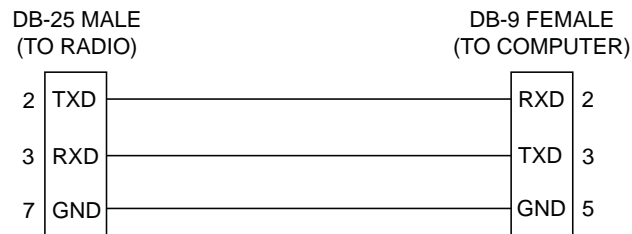

Figure 15. DB-25 to DB-9 Adapter Cable
1. Connect a PC to the radio’s DATA INTERFACE port via a DB-9 to DB-25 adapter (MDS P/N 01-3683A01 or equivalent). If desired, an adapter cable may be constructed from scratch using the wiring diagram shown in Figure 15.